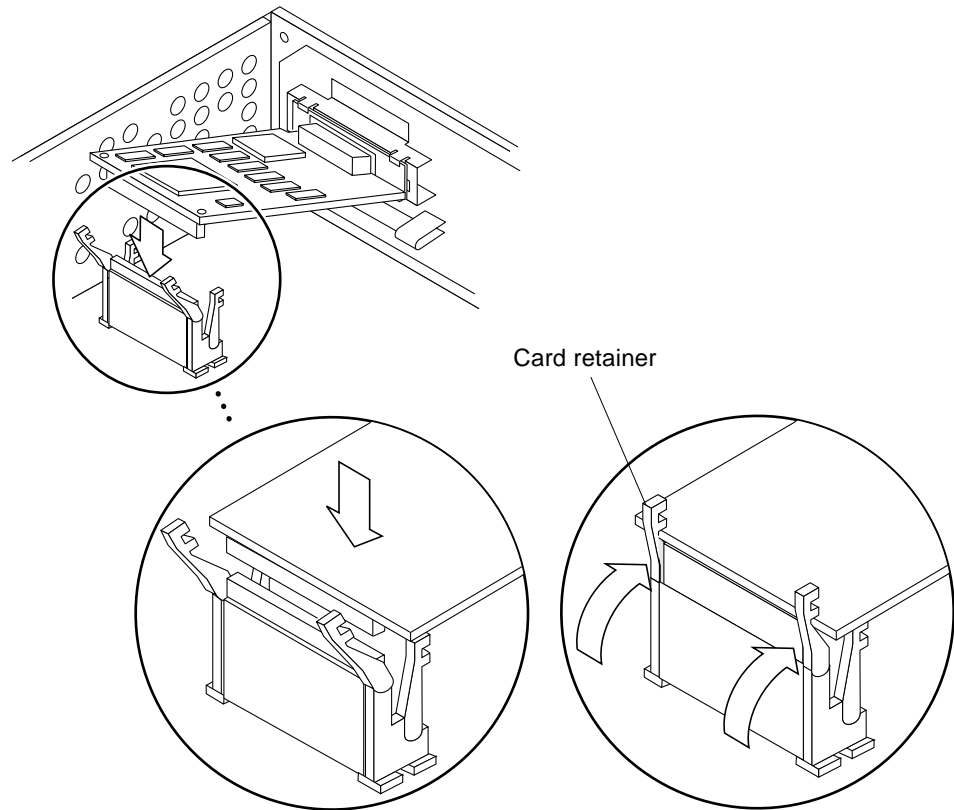

Figure 3-11 Replacing the SBus Card
4. Slide the SBus card at an angle into the system unit by hooking the card backplate under the two tabs on the back panel (Figure 3-11). Ensure the card backplate is visible through the back panel slot.
6. Push the rear card retainers forward over the SBus card (Figure 3-11).